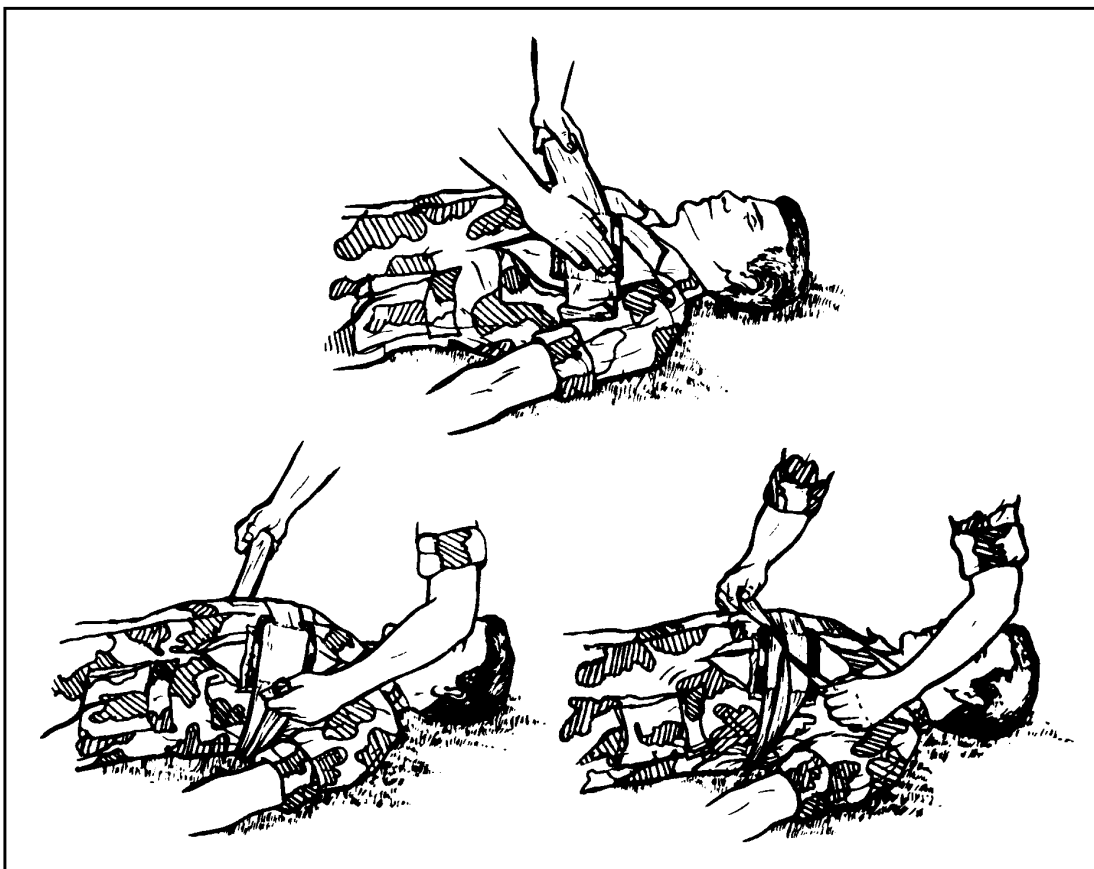

Figure 3-15
- a. Place the field first aid dressing over the seal and tie the ends directly over the wound. (See Figure 3-15.)